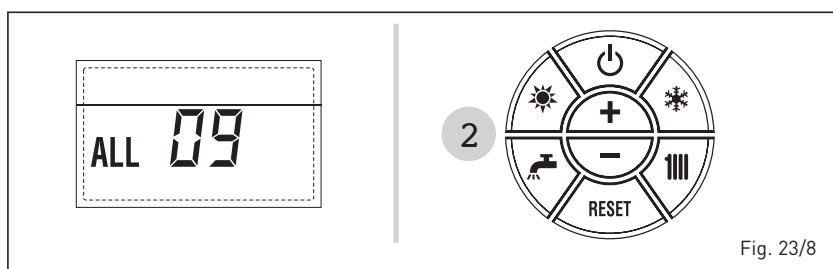

Fig. 23/8
– **ANOMALÍA DE LA Sonda ANTIHIELO DEL SIFÓN “AL 10” (fig. 23/9)**